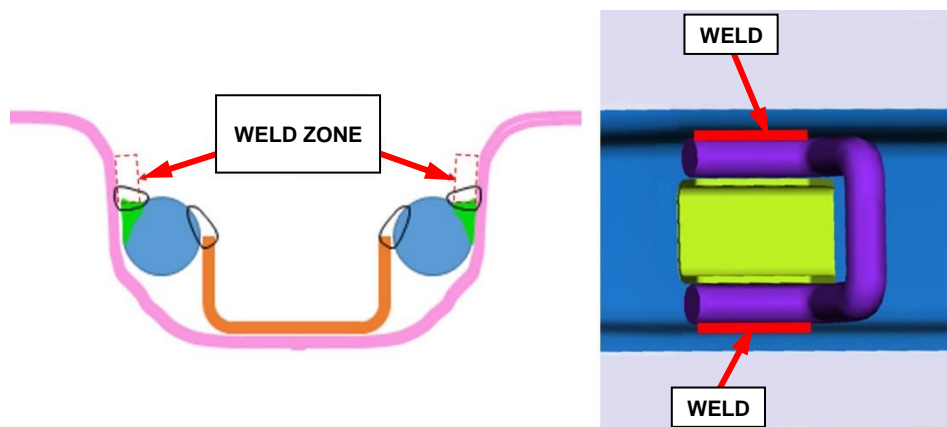

Figure 25 – Seat Striker Rod Weld
9. Apply a fillet weld along the prepared surface between the seat striker rod existing weld and the sheet metal of the seat striker cavity. The weld shall begin at the seat striker rod end and continue to its bend tangent point (Figure 25).